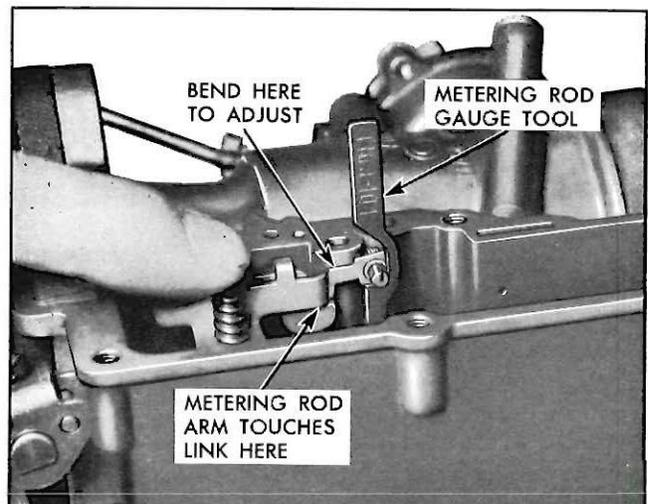

Fig. 17—Adjust Metering Rod Arm
- b. Remove metering rod from carburetor and place gauge tool J-21056 in metering jet (fig. 17).
- c. Push down on pump diaphragm rod until the metering rod arm just touches the lifter link (at point A, Figure 17).
- e. If necessary, adjust by bending metering rod arm at point shown in Figure 17.